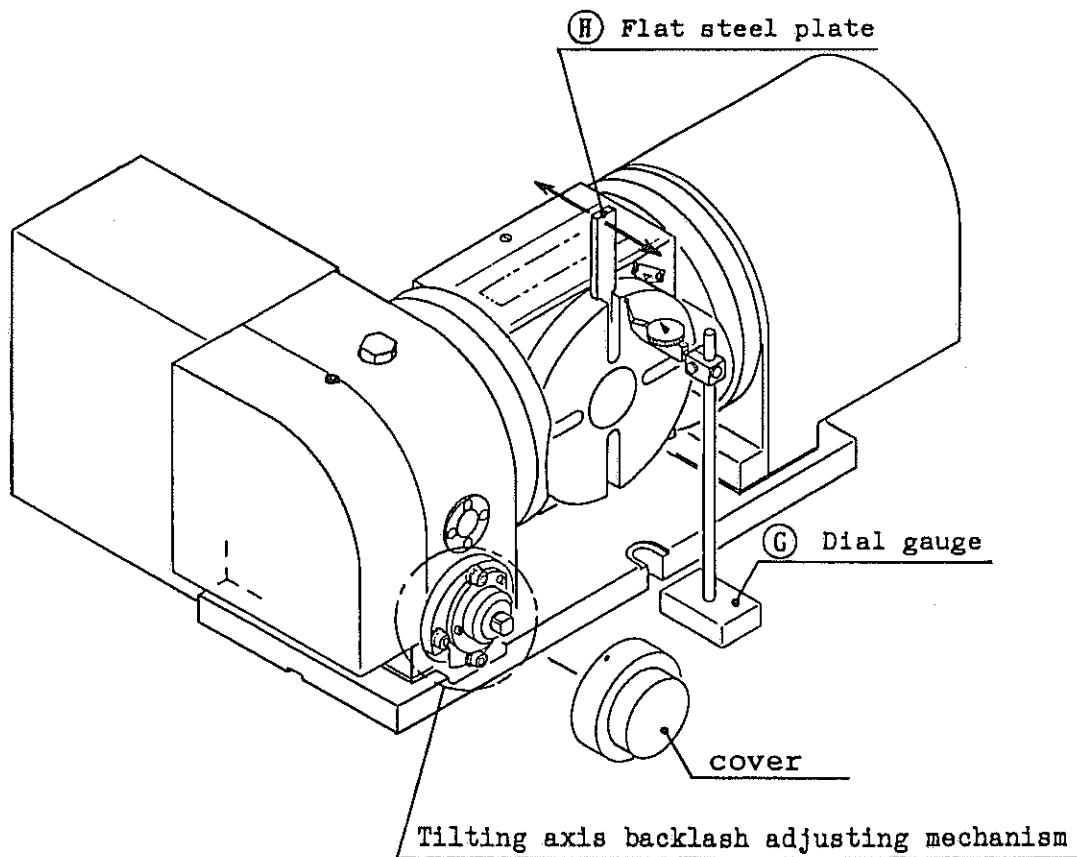

Fig.3 Measurement of backlash for tilting axis
Set the dial gauge onto top surface of the faceplate (at almost centre line of the rotary axis )as illustrated in Fig. 3
Read a deflection of the dial gauge by inserting the flat plate (H) into a top T-slot and manoeuvre the faceplate to the both directions as the arrows show in Fig. 3 A backlash of within 5 to 20 microns is initial amount when shipped, and the adjustment should be done in the event when a backlash of 50 microns or more is observed. The measurement is to be done at four spots of every 30 degree of tilting axis.
- 6) Reset the dial gauge (G) as shown in Fig. 3, loosen the bolt (c) and tighten the bolt (d) clockwise, then the eccentric housing will turn to get the backlash near to 0 (zero).
- 7) Read a deflection of the dial gauge (G) by inserting the flat plate (H) into a T-slot and manoeuvre the face plate up and down through the plate by hand. Adjust the backlash within 10 to 20 microns.